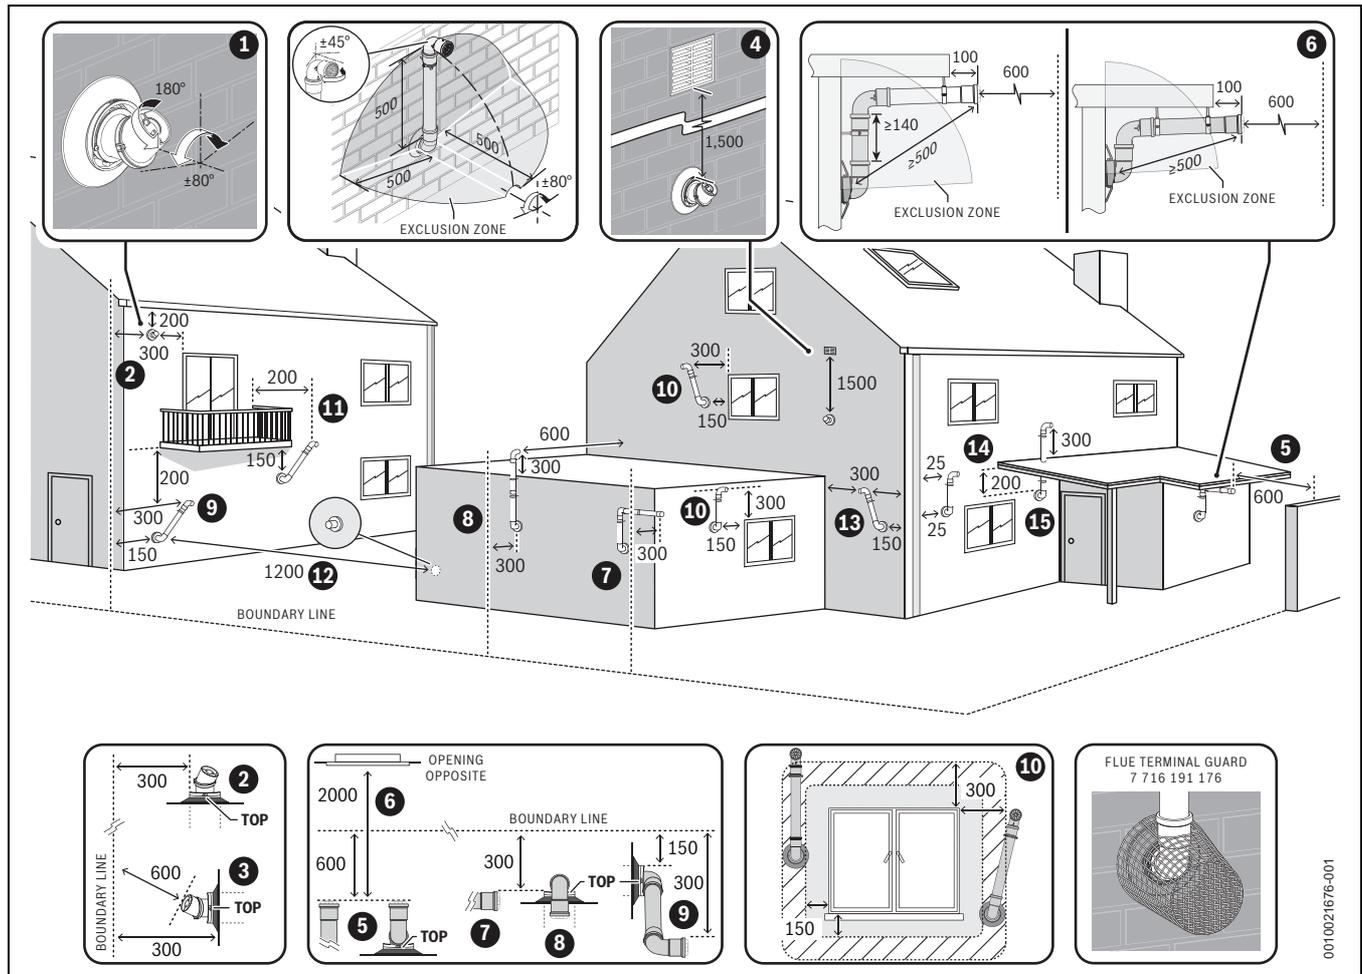

Fig. 30 Plume re-direct and plume management terminal positions
- ▶ Refer to “Horizontal flue terminal positions” for all concentric flue terminal positions unless the flue position is specified in figure 30 “Plume re-direct and plume management terminal positions”.
**Key to figure 30 - Plume re-redirect terminal positions:**
**Key to figure 30 - Plume management terminal positions:**